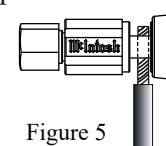

Figure 5
2. Connect the Loudspeaker hookup cables to the ML1 Negative (-) Input Terminal and Positive (+) Input Terminal. Insert the spade lug connector or prepared section of the cable end into the Input Terminal side access hole, and tighten the Input Terminal cap until the cable is firmly clamped into the terminals so the lugs or wire cannot slip out. Refer to figures 5 and 6.
3. Referring to the illustration connect the Loudspeaker hookup cables to the ML1 Negative (-) Input Terminal and Positive (+) Input Terminal. Insert the spade lug connector or prepared section of the cable end into the Input Terminal side access hole, and tighten the Input Terminal cap until the cable is firmly clamped into the terminals so the lugs or wire cannot slip out. Refer to figures 5 and 6. Then connect cables to the ML1 HIGH/MID Negative (-) and Positive (+) Input Terminals.